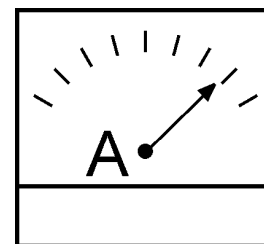

Figure 55. Ammeter (Load)
17. Verify that the generator's ammeter (Figure 55) reads the anticipated amount of current with respect to the load. The ammeter will only display a current reading if a load is in use.